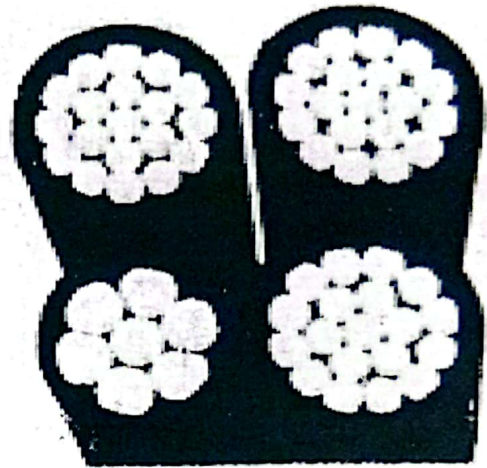

Figure 2 : Neutral Supported Cable
- ☐ Neutral supported (Refer figure 2) - the phase cores are laid up around an aluminium alloy neutral, which acts as a catenary to support the whole bundle.